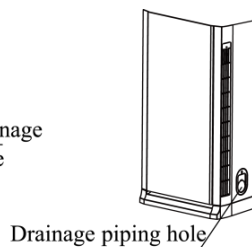

Fig.4
- (2) During piping and wiring in the left and at the rear side, the attached accessories should be used, as shown in Fig.4.